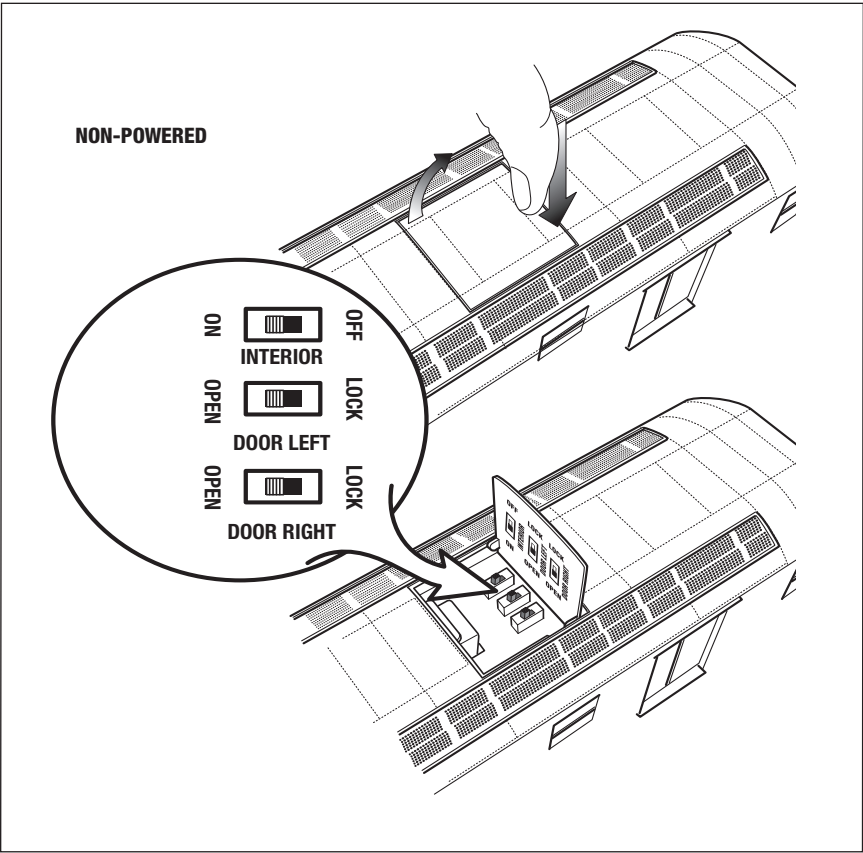

Figure 3. Switch locations
To open the left side doors, press **AUX1, F**. To close the doors, press **AUX2, F** then **AUX2**. To open the right doors, press **AUX1, R**. To close the doors, press **AUX2, R** then **AUX2**. You may choose to lock the doors from opening on a certain side using the switches located under the roof-top hatch on each car. The switches are illustrated in Figure 3 on page 7.
**E**ach car features a lighted interior, and opening doors. In the TMCC environment, the doors are opened and closed using the CAB-1 Remote Controller. To open the left side doors, press **AUX1** and **F**. To open the right side doors, press **AUX1** and **R**. To close the doors on the left side, press **AUX2**, **F**, **AUX2**. To close the doors on the right side, press **AUX2**, **R**, **AUX2**. You may choose to lock the doors from opening on a certain side using the switches located under the roof-top hatch on each car. The switches are illustrated in Figure 3 on page 7.